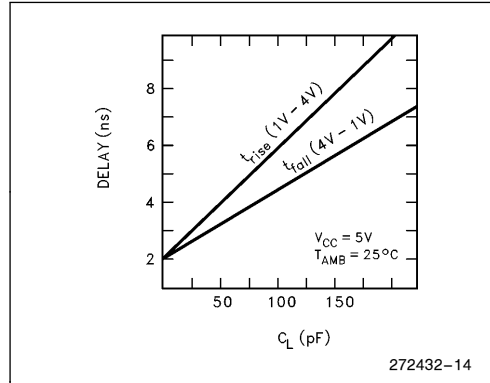

**Figure 13. Typical Output Delay Variations Versus Load Capacitance**
4. Specified for a 50 pF load, see Figure 13 for capacitive derating information.